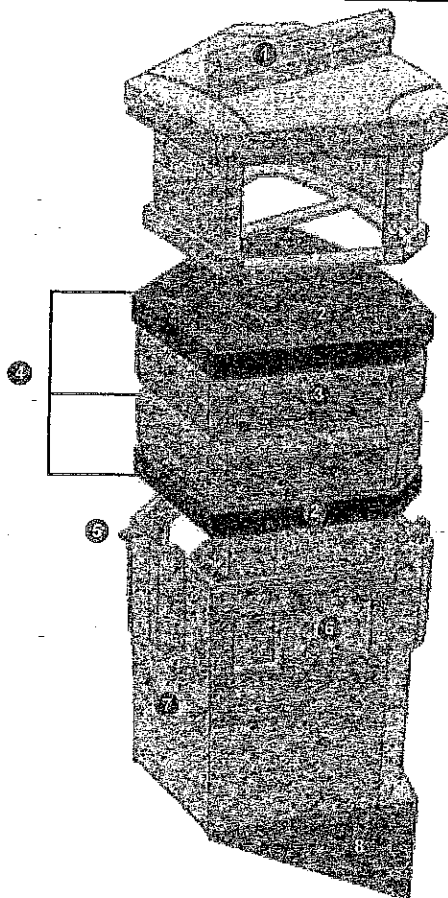

Fig.9 The Filter Module houses the Media Restraint and the Media Pack.
3. Open the Filter Module by turning the three cam latches on the front and sides of the module. Remove the lid ❶ to gain access to the Media Pack (Fig.9).
- A top layer of green ❷ Flow Distributing Media.
- Two (2) Media Bags ❸ equipped with nylon handles.
- A bottom layer of green ❷ Flow Distributing Media.
- Next, insert the first of two (2) replacement Media Bags. Smooth the bag out with your hands to make sure that the bag extends snugly to the walls and corners of the Filter Module.